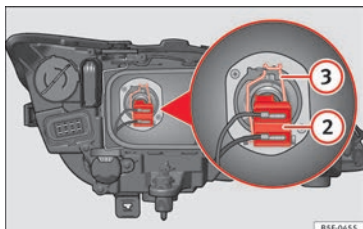

Fig. 103 Dipped beam headlights.
- Remove connector »» Fig. 103 ② from the bulb.
- Unclip the retainer spring »» Fig. 103 ③ pressing inwards to the right.